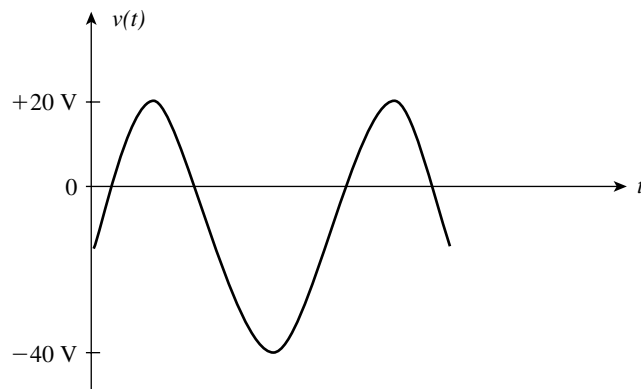

FIGURE 25-49
4. Repeat Problem 1 if the waveform of Figure 25-49 is applied to a 10-k Ω resistor.